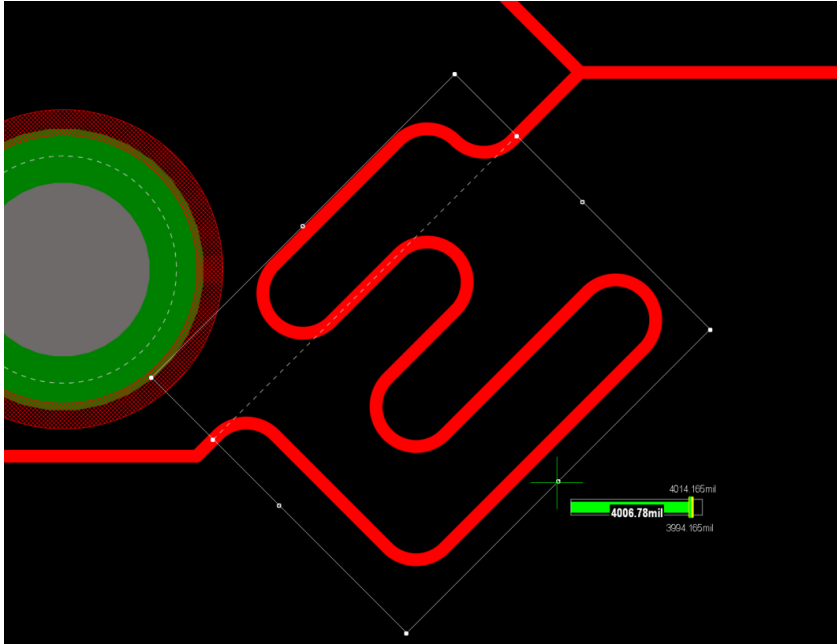

Figure 26. Adjusting the Length Tune to adhere to the Length rule
72. Continue to drag the vertex until enough loops are added so that it adheres to the length rule as indicated by the *Length Guide Indicator* as shown in Figure 26.